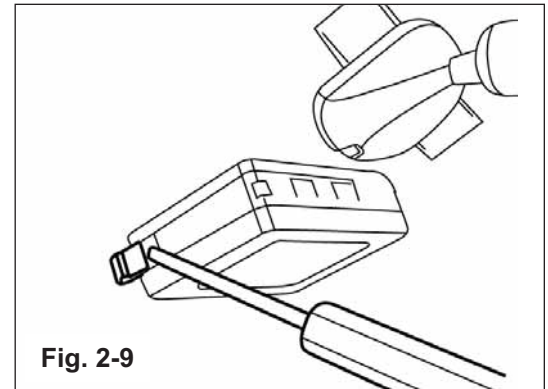

Fig. 2-9
- e) Using 4mm screwdriver, slide the two (2) locking tabs downward on the rain-sensor. (Fig. 2-9)